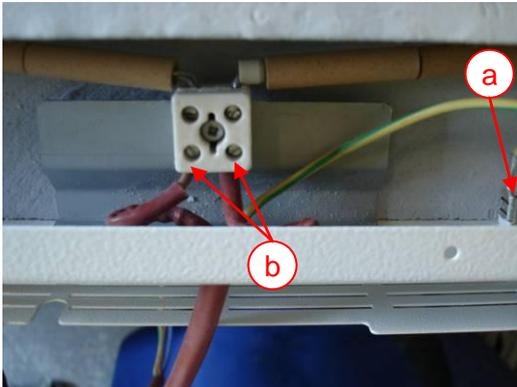

Fig. 30 – heating wire
- Unplug the grounding wire at the terminal (fig. 30 a)
- Loosen the screw at the ceramic connection clamp (fig. 30 b) and pull out heating wire.
- Connect the grounding wire to terminal (fig. 30 a)
- The heating element can be checked by using an Ohm-meter at connection clamp (fig. 30 b). Resistance should be $27.8 \pm 0.3 \text{ Ohm}$